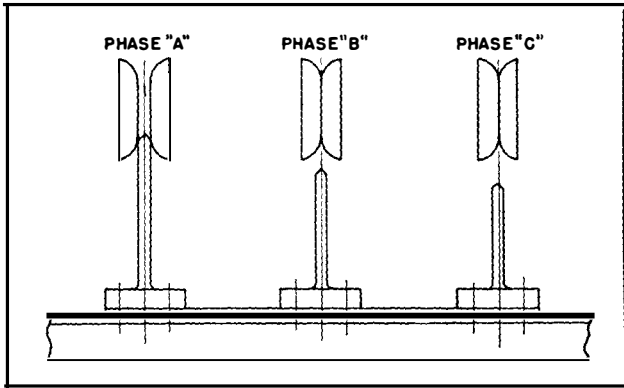

FIG. 4. Phasing Sequence A-B-C or H1-H2-H3.
grounding may be either H1-H2-H3 or H3-H2-H1. The former is standard and will be furnished unless otherwise specified on the order. See Fig. 4 and 5.
1. When pin marked A on the handle stops the movement, the contacts are engaged for phase A as shown in Fig. 4, Phases B and C are open-circuited. Check for circuit through phase A with test voltage, then tag.